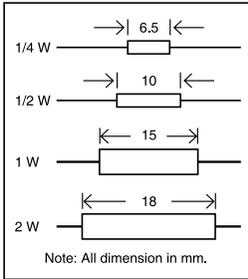

Fig. 37: Carbon resistor size and wattage relationship
5. Resistor wattage: The power that a resistor can safely dissipate (without burning) depends on its size. Typical sizes of carbon resistors for 1/4 W, 1/2 W, 1 W and 2 W are 6.5 mm (0.25 inch), 10 mm (0.4 inch), 15 mm (0.6 inch) and 18 mm (0.7 inch) respectively, as shown in Fig. 37.